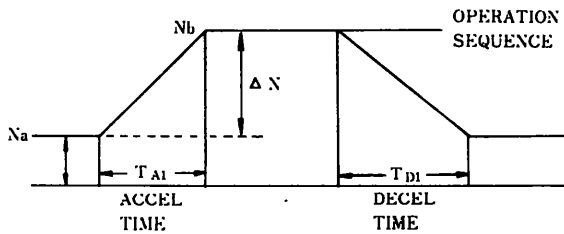

Fig. 6.30 Operation Pattern of Acceleration and Deceleration
- (1) Determine the required acceleration and deceleration patterns (Fig. 6.30).